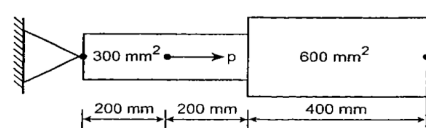

Figure 1
- (b) Consider the bar as shown in Figure 1. Calculate the following